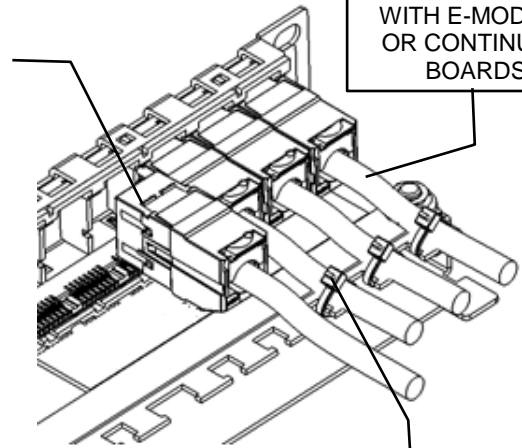

Fig. 6
2. Orient jack to panel as shown in Fig. 6. Contacts on bottom of jack will mate with the panel bezel.
3. Slide jack into patch panel port opening at slight angle and snap jack into panel by pushing down on top of jack (see Fig. 6).
4. Secure cables to cable tray with cable ties (See Fig.6).